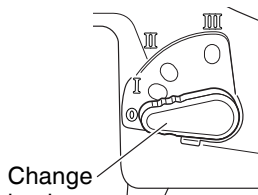

Fig. 6
- (1) This Jig Saw employs orbital operation which moves the blade back and forth, as well as up and down. Set the change knob shown in Fig. 6 to "0" to eliminate the orbital operation (the blade moves only up and down). The orbital operation can be selected in 4 steps from "0" to "III".
- (2) For the hard material, such as a steel plate, etc., decrease the orbital operation. For the soft material, such as lumber, plastic, etc., increase the orbital operation to increase work efficiency. To cut the material accurately, decrease the orbital operation.